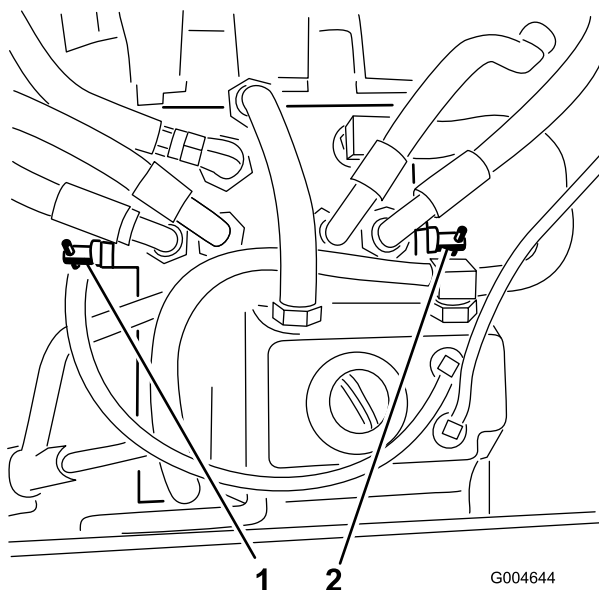

Figure 36
3. Rotate each by-pass valve counterclockwise 1 turn (Figure 36).
Rotate each by-pass valve clockwise 1 turn and hand tighten them (torque of approximately 8 N-m (71 in-lb) (Figure 36).